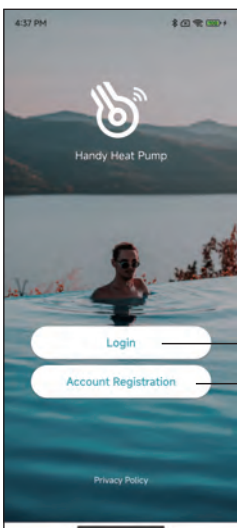
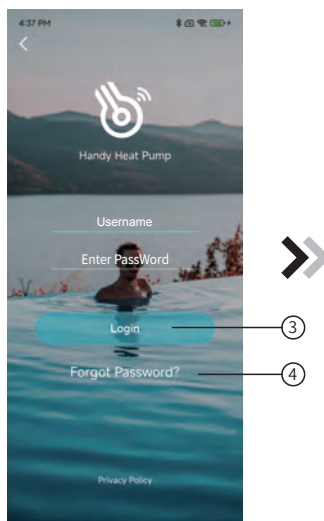
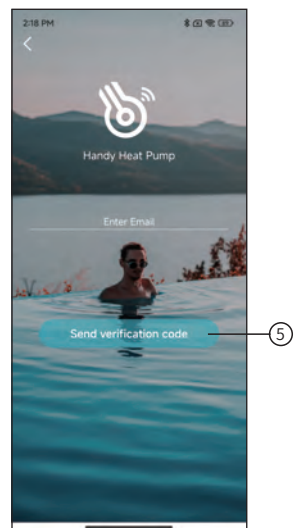

Fig.1 Home page
Fig.2 Login interface
Fig.3 Register and retrieve passwords
1. Account registration: Click ① (Fig. 1) on the home page to jump to the account registration interface (Fig. 3).
2. Login: Click ② (Fig.1) on the home page to jump to the login interface (Fig.2) and follow the instructions on the page (as shown in the figure).Enter your registered email address and password, and click ③ to jump to the device list.
3. Forgot Password: When you forget your password, click ④ (Fig.2) and jump to the password forgotten interface (Fig.3).Fill in the relevant information according to the page instructions, click ⑤ to send the email verification code, and operate according to the page instructions.